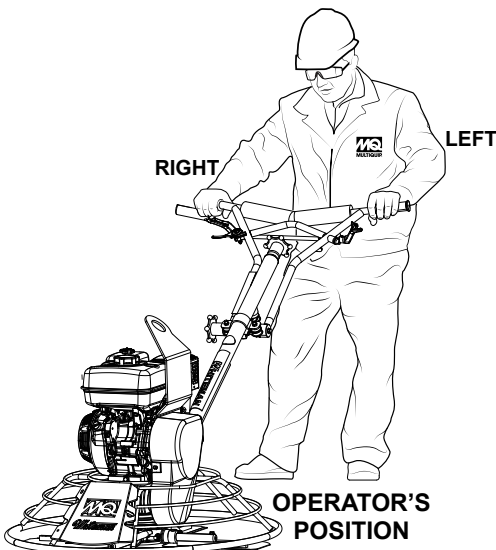

Figure 18. Operator's Position
4. Stand in the operator's position (Figure 18) behind the trowel and grasp both hand grips securely.